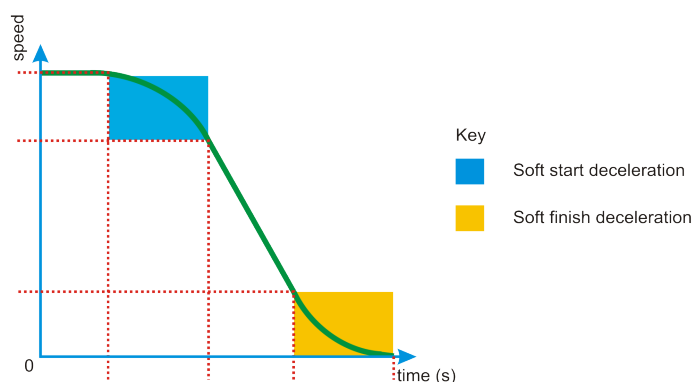

Figure 97: Defining soft start and soft finish deceleration
**Soft Start Deceleration** Whenever there is a decrease in speed demand, the Soft Start Deceleration function temporarily reduces the deceleration rate during the time that is set with Soft Start Deceleration (the blue section in Figure 97). This makes the deceleration smoother, especially with high deceleration rates.
**Soft Finish Deceleration** When the wheelchair almost reaches its desired speed during deceleration, the deceleration rate is slowly decreased to zero (the yellow section in Figure 97). This prevents a sudden change in deceleration once the desired speed is reached.